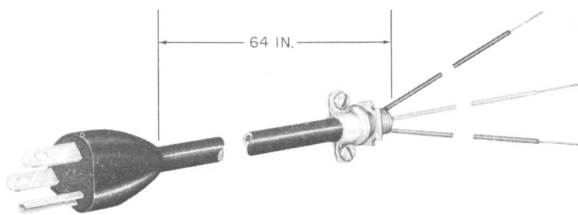

Fig. 2—KS-19425, List 22 Cable Assembly
- KS-19425, List 22 cable assembly (Fig. 2)—Used to bring power into the top of an indoor booth.